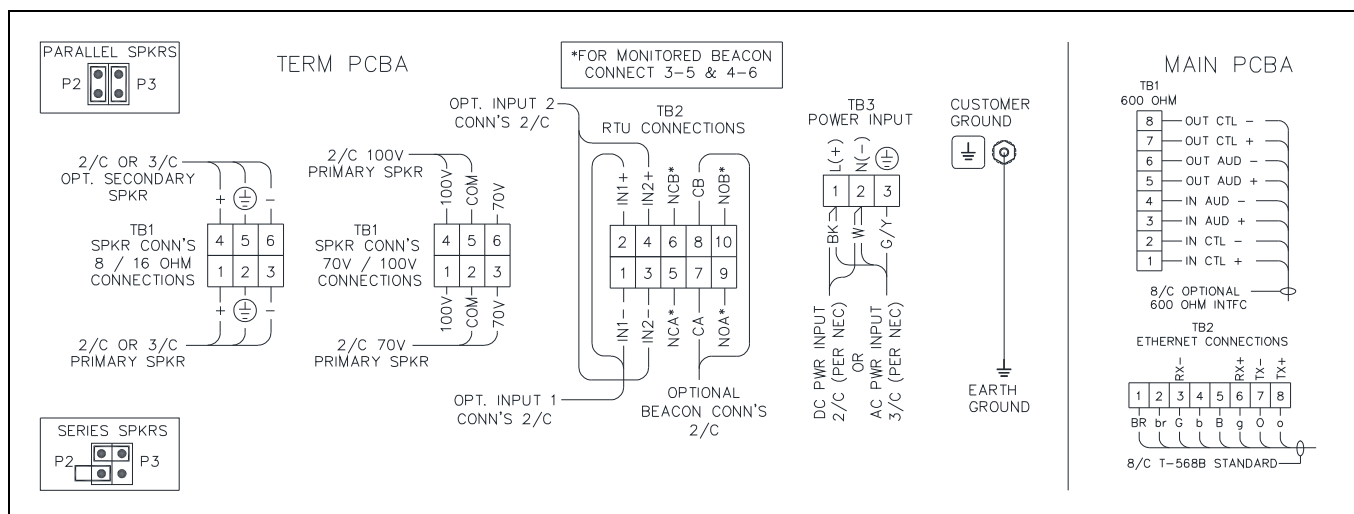

Figure 3. HUBBCOM Termination and Main PCBA Connections
HUBBCOM stations provide terminal blocks, on the termination PCBA, located in the rear enclosure, for field wiring the power, speaker, and RTU connections. The main PCBA, mounted to the back of the front panel, provides pluggable terminal blocks for the 600-ohm audio and Ethernet network connections (see Figure 3).
1. Terminate the direct speaker connection to terminal block TB1 on the termination PCBA (see Figure 3).
1. Connect 100-volt speakers between the 100V and COM terminals on terminal block TB1. Connect 70-volt speakers between the 70V and COM terminals on terminal block TB1 (see Figure 3).
5. Terminate the RTU inputs and output to terminal block TB2 on the termination PCBA (see Figure 3).
6. Terminate the ac or dc power input to terminal block TB3 on the termination PCBA (see Figure 3).
7. Terminate the 600-ohm audio connections to terminal block TB1 on the main PCBA (see Figure 3).
8. Terminate the Ethernet connection to terminal block TB2 on the main PCBA (see Figure 3).